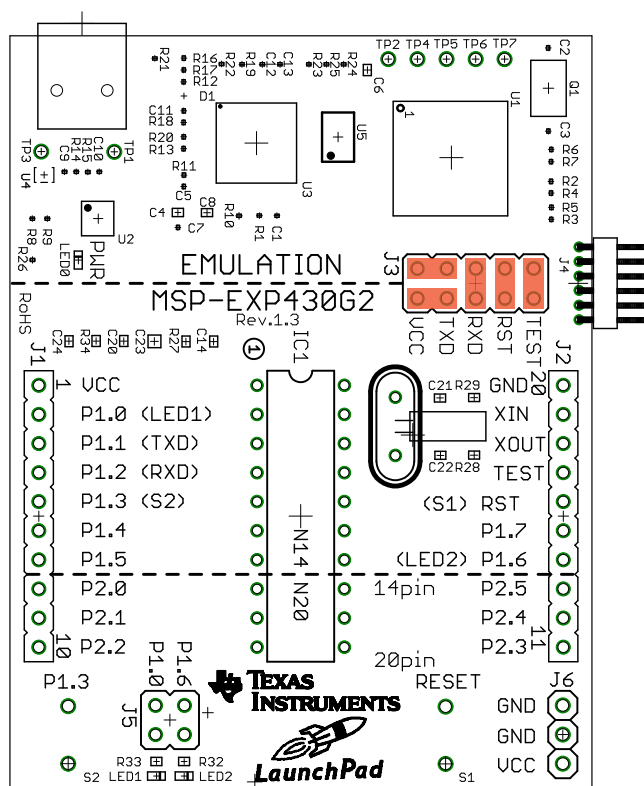

Figure 2. J3 Jumper
2. For LaunchPad rev1.5, switch to hardware UART through J3 jumpers, as shown in Figure 2.